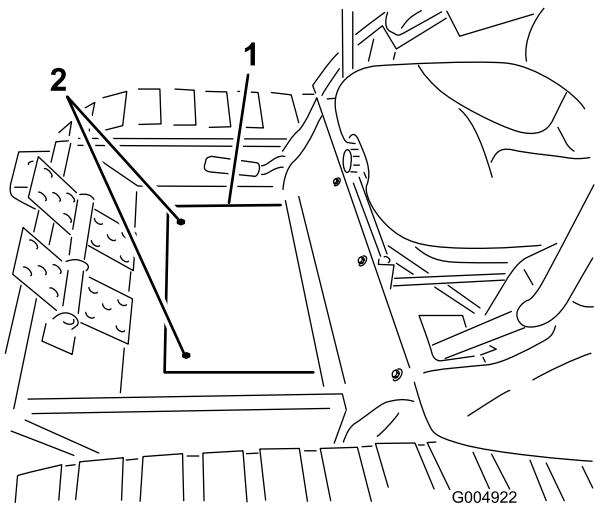

Figure 108
20. Remove the two screws securing the winter frame floor plate cover to the floor and remove the plate (Figure 108).